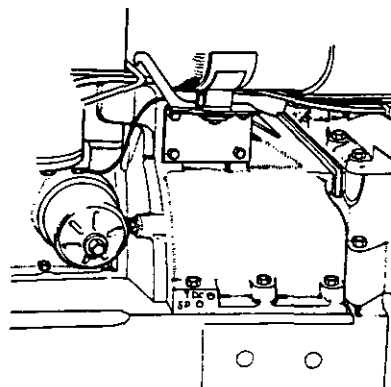

Figure 39. ENGINE TIMING APERTURE
1. Remove valve rocker cover, turn engine until No. 1 inlet valve closes and insert timing pointer into SP hole (Fig. 39) and continue turning engine until pointer drops into flywheel indentation. Place tractor in gear, to prevent engine being turned whilst pump is removed
Place engine stop control in "run" position and whilst operating feed pump priming lever turn engine in direction of rotation: if injector nuts are released and injectors are raised slightly, to release compression, engine can be turned with the fan. Grind a blunt point on the end of a short piece of $\frac{3}{16}$ in. (8 mm) rod and insert this into the hole marked "SP" on left-hand side of clutch housing. (Fig. 39.) Whilst an assistant is slowly turning the engine and operating the priming lever, rest a finger against the rod and observe the fuel dripping out of the pipe. The point at which injection commences will be reached when fuel ceases to drip out of pipe and this should coincide with the rod dropping into flywheel indentation. If the fuel flow ceases before, or after, the rod is felt to fall into the flywheel indentation, release pump mounting nuts and turn the pump body slightly — direction of engine rotation to retard and opposite to engine rotation to advance. Fully tighten mounting nuts then recheck timing.
Grind a blunt point on a short piece of $\frac{5}{16}$ in. (8 mm) diameter rod and insert this into the hole marked "SP" on left-hand side clutch housing. (Fig. 39.) Whilst an assistant is slowly turning engine, rest a finger against end of rod and watch fuel level in capillary tube. Initially set the pump so that fuel level in tube commences to fall at the same time as pointer is felt to fall into flywheel indentation, then measure $\frac{1}{8}$ in. (3 mm) anti-clockwise from pump flange timing-line and scribe a line on engine carrier plate. Check that scribed line is quite clear, in the correct direction and the correct distance from pump mark, then release the mounting bolts and turn pump body to align pump and carrier plate marks. Retighten mounting bolts and refit injector pipes.